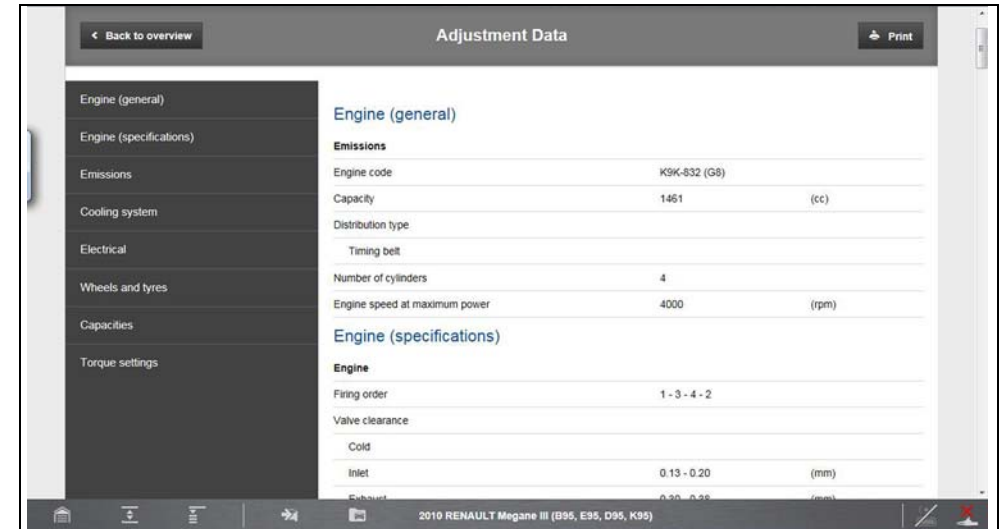

Figure 9-19
- **Adjustment Data** - (Figure 9-19) General information and common vehicle maintenance and repair specifications